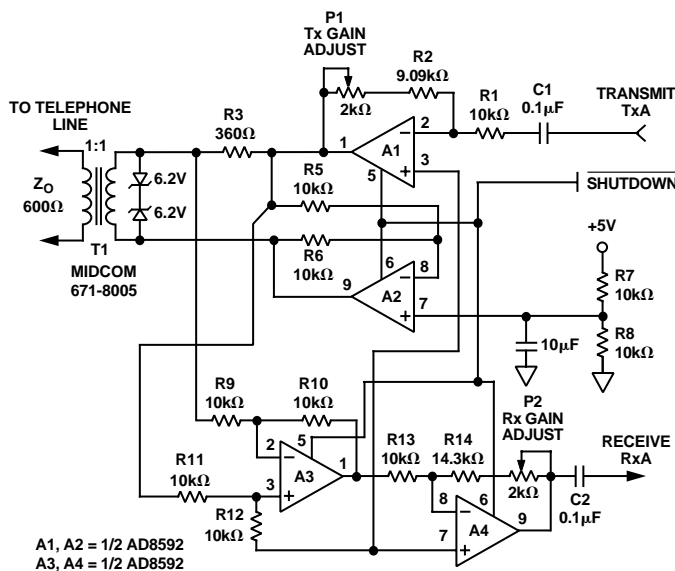

Figure 38. A Single Supply Direct Access Arrangement for PCMCIA Modems
Figure 38 illustrates a +5 V transmit/receive telephone line interface for 600 Ω systems. It allows full duplex transmission of signals on a transformer-coupled 600 Ω line in a differential manner. Amplifier A1 provides gain that can be adjusted to meet the modem output drive requirements. Both A1 and A2 are configured to apply the largest possible signal on a single supply to the transformer. Because of the AD8594's high output current drive and low dropout voltages, the largest signal available on a single +5 V supply is approximately 4.5 V p-p into a 600 Ω transmission system. Amplifier A3 is configured as a difference amplifier for two reasons: (1) It prevents the transmit signal from interfering with the receive signal and (2) it extracts the receive signal from the transmission line for amplification by A4. Amplifier A4's gain can be adjusted in the same manner as A1's to meet the modem's input signal requirements. Standard resistor values permit the use of SIP (Single In-line Package) format resistor arrays. Couple this with the AD8594 16-lead TSSOP or SOIC footprint, and this circuit offers a compact, cost effective solution.